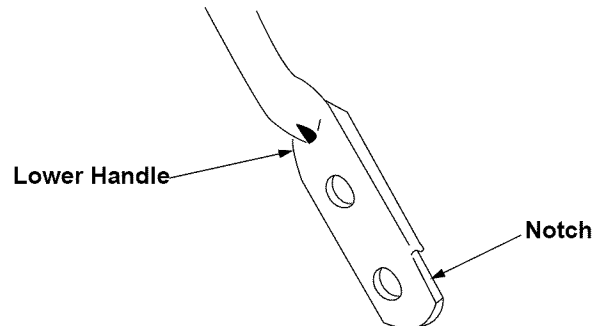

Figure 13
- Turn lower handle around so the notch on the bottom of the lower handle is facing forward. See Figure 13.